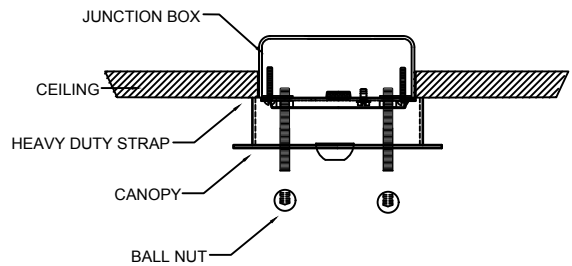

FIGURE-03
7. Pull up & attach the canopy to the heavy duty strap and secure it with ball nuts. (See Figure-03)